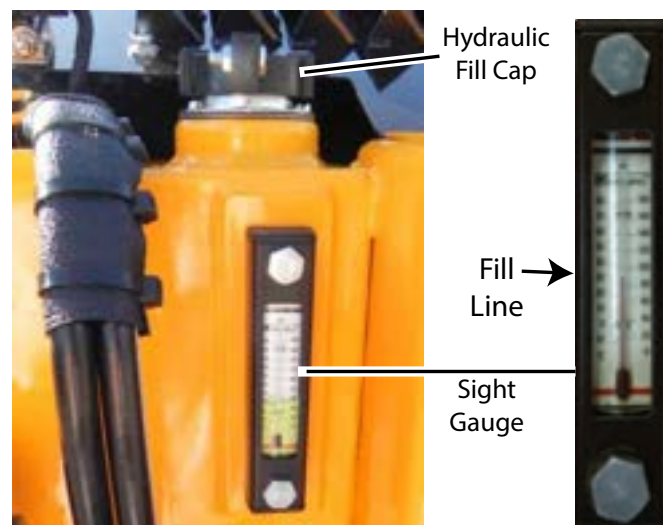

Figure 5-19. Hydraulic Oil Cap and Sight Gauge
Check the hydraulic reservoir oil level daily using the sight gauge on the left side of the paver. **(Figure 5-19)**
- Slowly unscrew the hydraulic oil fill cap and add hydraulic oil. **(Figure 5-19)**
11. Fill the hydraulic oil tank with filtered hydraulic oil. The cold oil level should be about 1/2-inch below the fill level black line on the sight gauge. **(Figure 5-19)**